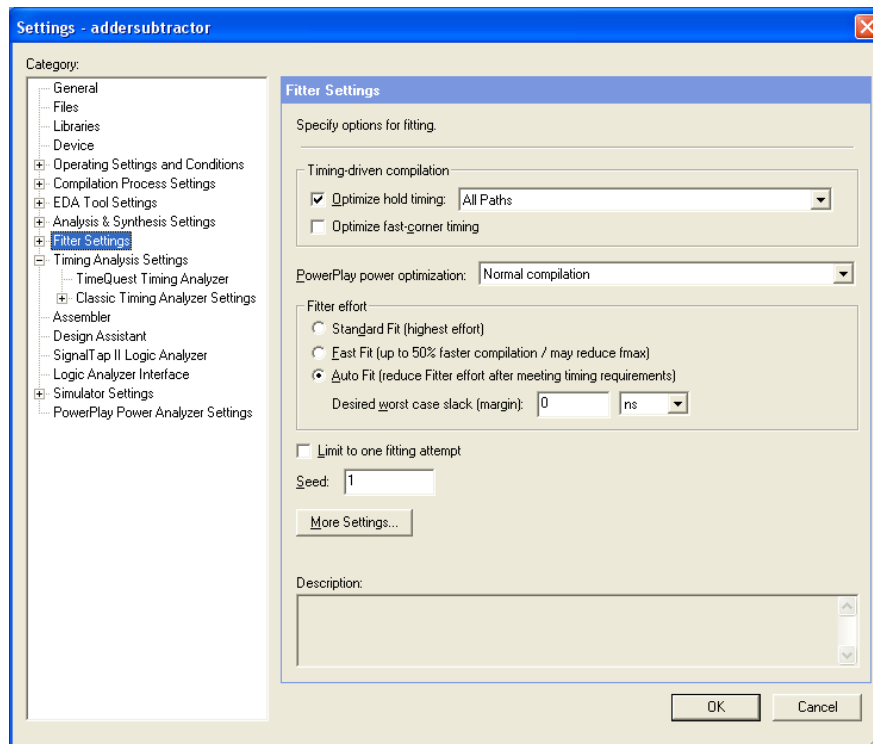

Figure 36: Fitter settings.
3. From the main Quartus® II window, click **Assignments > Settings** and then select the category **Fitter Settings** which opens the window in Figure 36. Three different levels of effort can be given. Choose the Auto Fit option, which instructs the Fitter to stop as soon as it finds an adequate implementation. The Fast Fit option reduces the compilation time, but it may produce a lower  $f_{max}$ . The third option, Standard Fit, forces the Fitter to produce the best implementation it can find; at this effort level the Fitter will exceed the user's timing requirements as much as it can, which often results in longer compilation time. Click OK, and recompile the circuit.